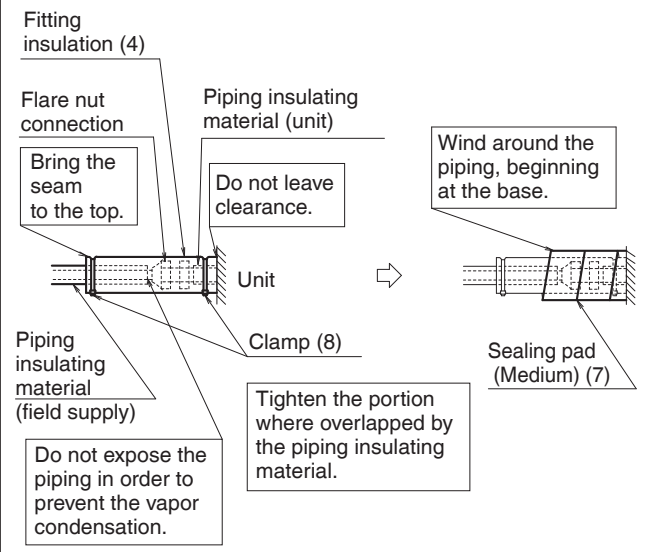

Fig. 11
- After leak test, referring to **Fig. 11**, insulate both the gas and liquid piping connection with the attached fitting insulation (4) and (5) to prevent the pipings from getting exposed. Then, tighten both the ends of insulating material with the clamp (8).
- Wrap the sealing pad (Medium) (7) around the fitting insulation (4) and (5) (flare nut section), both the gas and liquid piping.
- Make sure to bring the seam of fitting insulation (4) and (5) to the top.